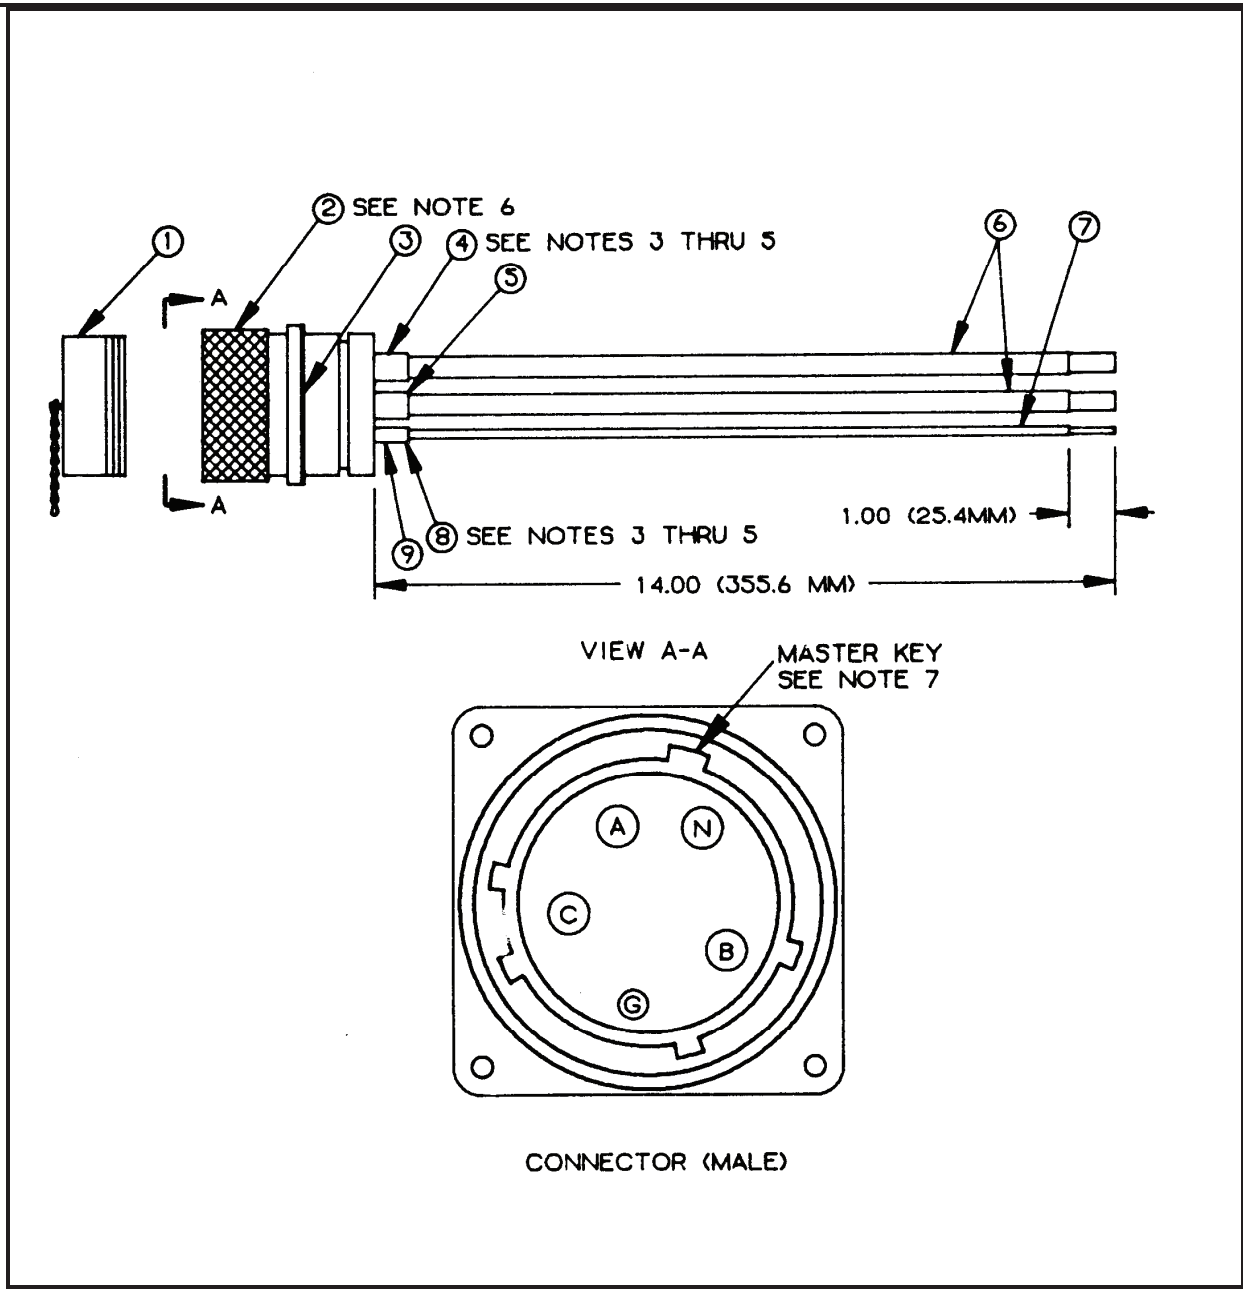

Figure F-8. Distribution Center Input Connector Assembly, M40, 40-Amp (J1)
Component Legend for Figure F-8
- c. Electrical connector (Figure F-8, Item 2) is furnished with the following: